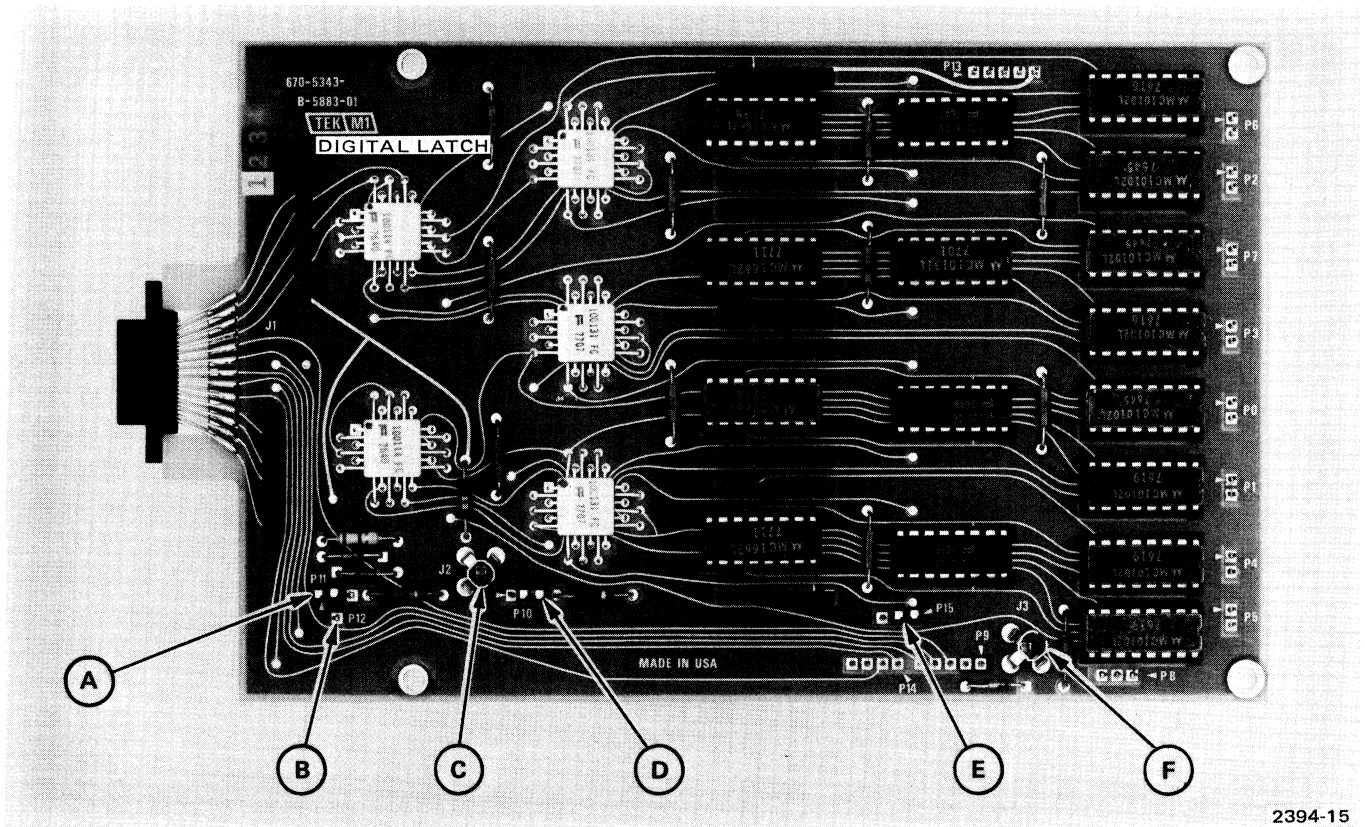

Fig. 3-12. Internal connectors and selectors on latch circuit board.
NOTE: Refer to Figure 3-12 for location of connectors and selectors.
1. Disconnect all cables that terminate on the Digital Latch circuit board. (Refer to Fig. 3-12 for multi-pin connector and "P" number orientation when replacing boards.)
The position of internal connectors and selectors on the two identical digital latch circuit boards permits functional and operational changes between the boards. Several internal connectors and selectors on each circuit board are factory set for either Channel 7-0 or Channel 15-8 operation. Normally these connectors and selectors will not require changing unless the board is removed or replaced. Fig. 3-12 shows the location of the internal connectors and selectors on the circuit board. Table 3-3 lists the correct position of all connectors and selectors for both boards (Channel 7-0 and Channel 15-8).